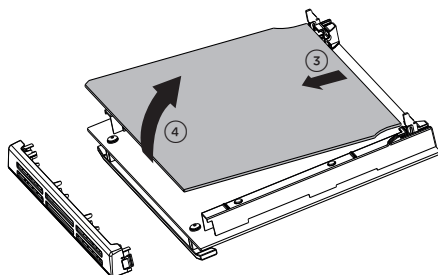

Fig. 8.14
- Gently lift and pull out the inner pane of glass by releasing it from the bottom retainers. Do not angle the pane too much as you may damage the glass (fig. 8.14).